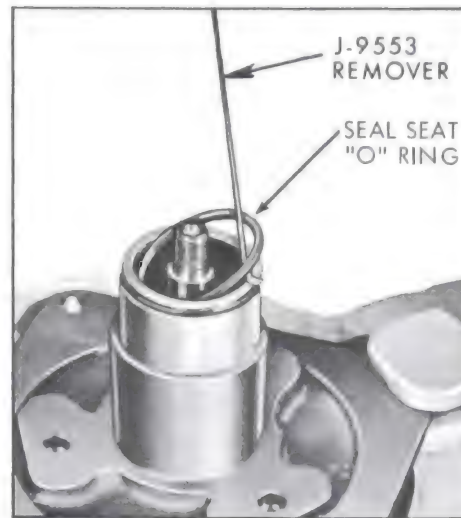

Figure 11-113—Removing Seal Seat O-Ring
5. Remove seal seat "O" ring from interior of hub of front head using J-9553 Remover. See Figure 11-113.